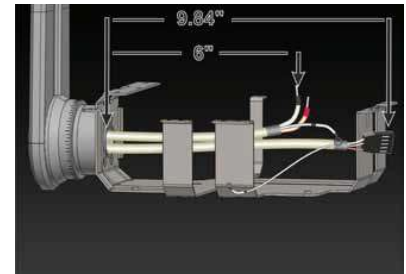

Figure 107
- Insert the communication cable inside the hole provided on the wire slot side of the Tube Head arm as shown in the Figure 106 & then the Inverter power cable along with the Scissor Arm earthing wire as shown in the Figure 107 such that the wire comes out of the L arm circular bush.
- Pull the Scissor Arm cables such that the length of the communication cable measures 9.84"(approx) from the connector to the surface of the L-Clamp and length of the Inverter power cable measures 6"(approx) from the connector to the surface of the L-Clamp as shown in the Figure 107 using measuring tape.
- Keeping the cable length (towards the L-Clamp end) fixed, route the communication cable near the rotating bush (inside the outer hole of L Arm) as shown in the Figure 107 (Leave extra length of 1 turn of communication cable within the circular area as shown in Figure 108).